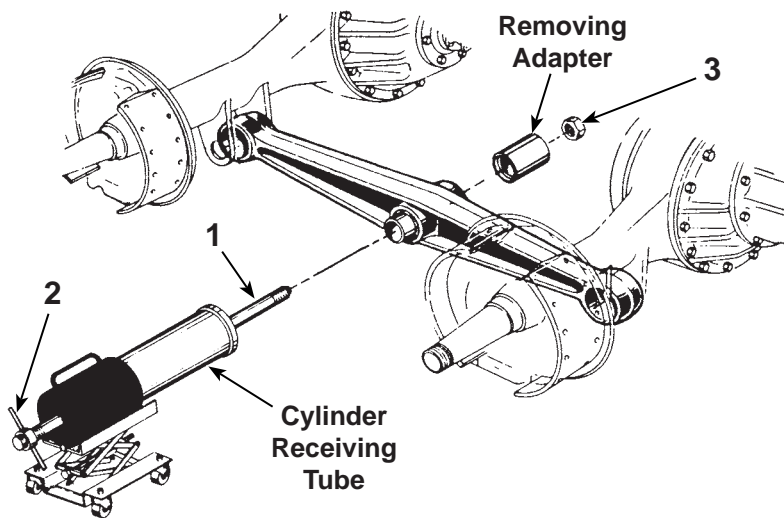

Figure 3
5. Assemble the cylinder screw (item 1) and hydraulic equipment included in the 1740 service set. See Figure 3.